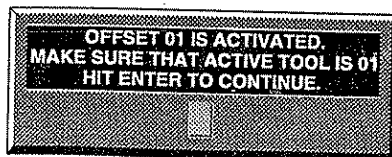

Figure 3-4
- 1) Press **[1]** TOOLCHG. Install the turning tool in the holder and select the tool and offset numbers that correspond to the turning tool. Press <enter>, the **Active Tool Menu** will appear as in Figure 3-4.